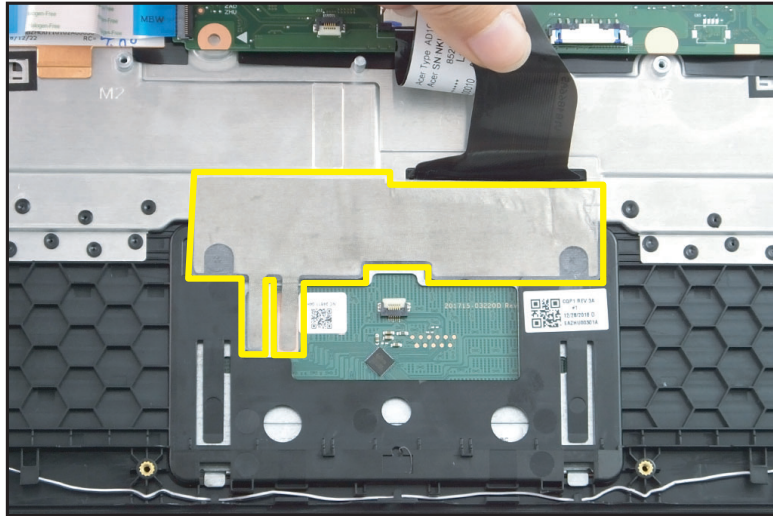

Figure 1-20. Touchpad Module Removal
4. Detach the conductive tape securing the touchpad to the top assembly (Figure 1-20).